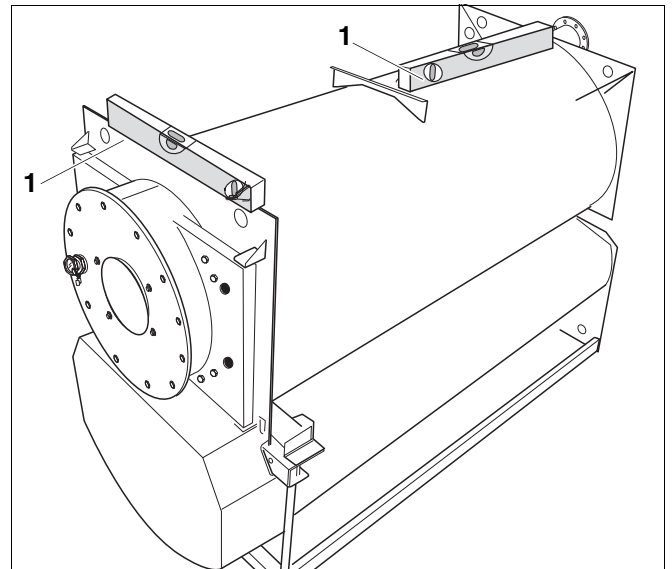

Fig. 6 Levelling the boiler
Level the boiler (Fig. 6) vertically and horizontally to prevent air pockets being created inside the boiler.
- Level the boiler horizontally and vertically as shown in Fig. 6 with the help of a spirit level [1].